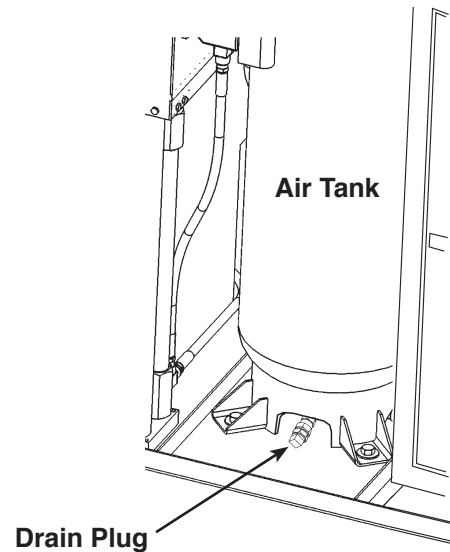

Figure 20
2. Place a shop towel or shallow pan under the air tank's drain plug. See Figure 20.